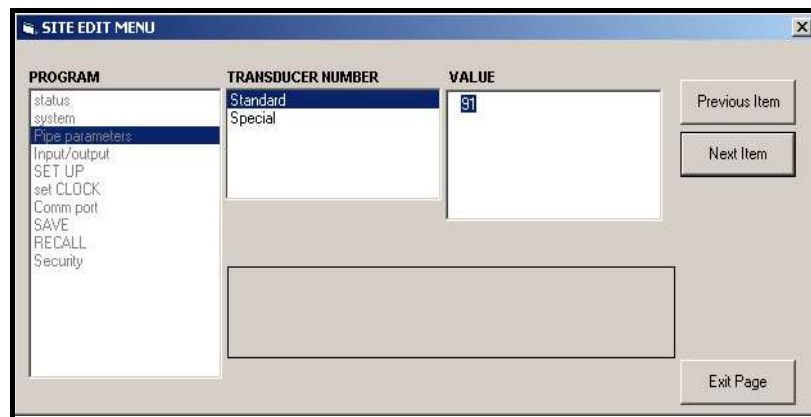

Figure C-21: Pipe Parameters Option in the Site Edit Menu
- a. Highlight and double-click on the desired option in the left pane. Figure C-21 below shows the first entry (Transducer Number) in the Pipe parameters option. The title above the center pane lists the current entry, while the center pane displays the available selections for that entry.